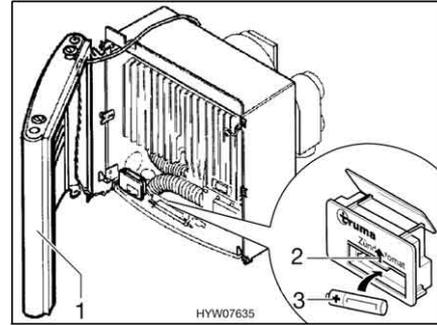

Fig. 125 Heater opened
- Turn the cover (Fig. 125,1) to the side, so that the connecting cables for the hot-air fan as well as the ignition control lamp do not need to be disconnected.
- Push battery chamber cover on the automatic ignition (Fig. 125,2) upward.
- Insert a new battery (Fig. 125,3) of the same type, correctly aligned (+/-), into the battery chamber of the automatic ignition. Only use temperature resistant (+70 °C) and leak-proof Mignon batteries.